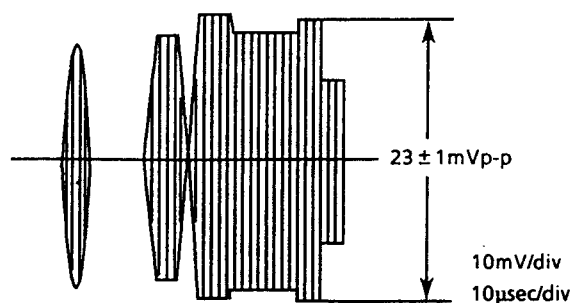

Figure 2-11.
- c) Adjust R320 (recording chroma control) so that the red level be $23 \pm 1\text{mVp-p}$ as shown in Figure2-11.